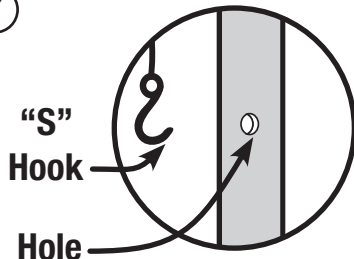

Fig. 8
- Attach "S" hooks (found at the rainfly) to the leg poles through the holes. (Fig. 8)